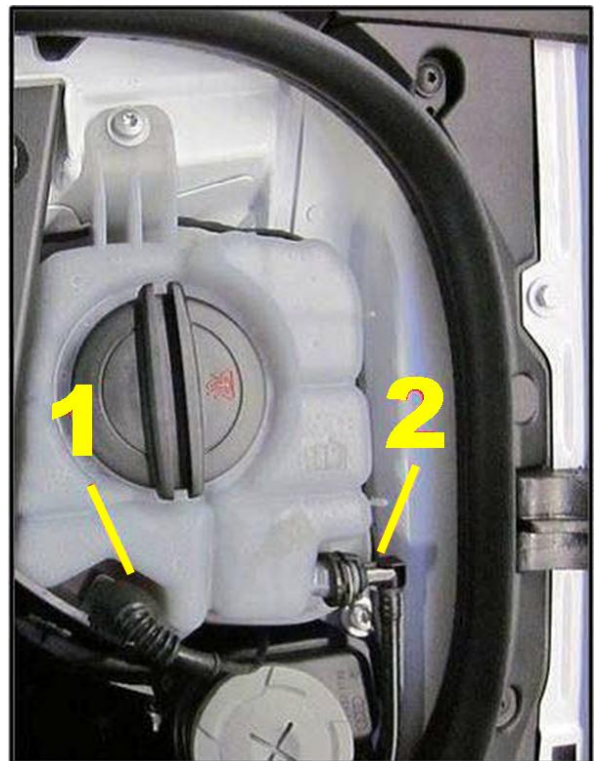

Figure 8. Connector (1) and breather line (2)
2. Unplug connector (Figure 8, 1) and disconnect breather line (Figure 8, 2)